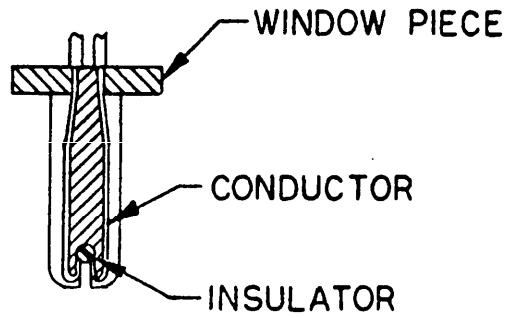

FIGURE 5. Insulator installation.
- E. Press insulator into the conductor spacer groove and trim the insulator flush with the sides of the conductor spacer. See Figure 5 (Insulator Installation).